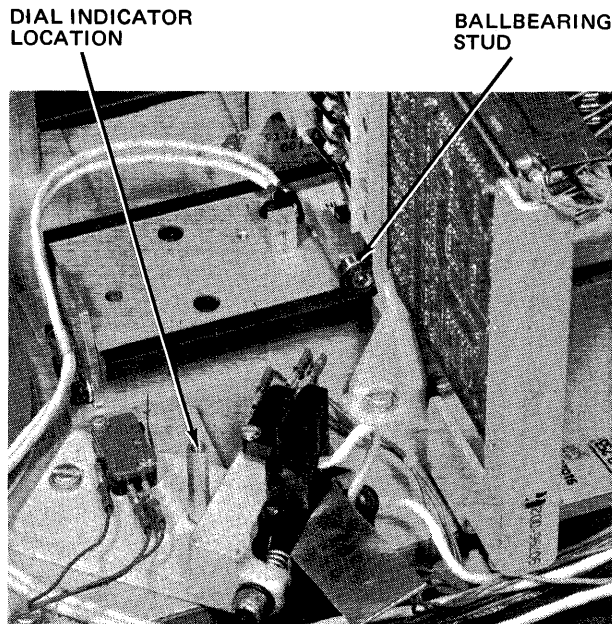

Figure 5-41. Dial Indicator Mounting
- d. Mount dial indicator on air shroud standoff and manually extend carriage to end-stop (see Figure 5-41).